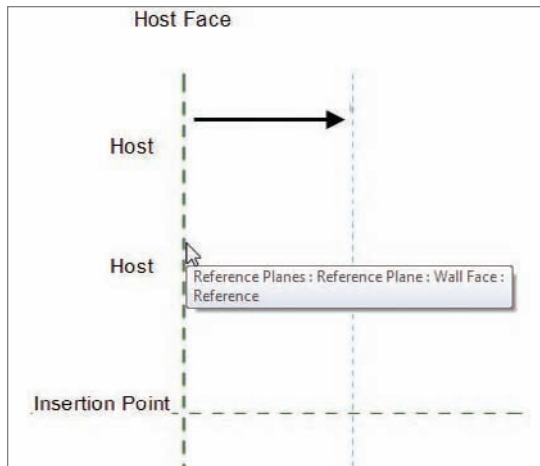

FIGURE 17.2 Adding a second vertical reference plane
4. Hover your cursor over the center, vertical reference plane. When you see the blue reference line appear to the right of the vertical plane (as shown in Figure 17.2), pick the center reference plane. You will now have two vertical reference planes spaced 1'-0" apart.